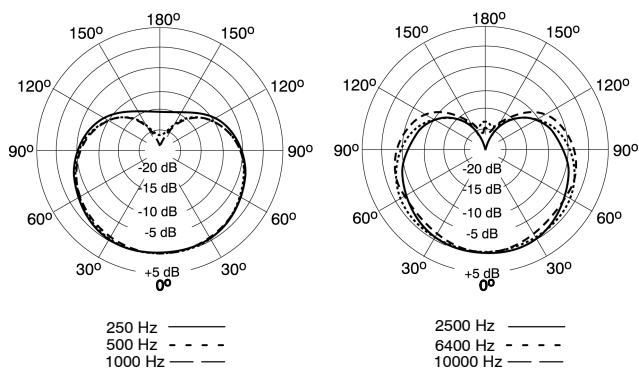

FIGURE 4. TYPICAL CARDIOID POLAR PATTERNS
**Cardioid.** When this pattern is selected, the microphone picks up sounds directly in front of the microphone and is least sensitive to those in back. This is the most commonly used pattern in studio recording and live-sound applications. See Figure 4.
**Omnidirectional.** Picks up sounds from all directions. This pattern is best for picking up room ambience and for miking several sources, such as an ensemble or multiple singers, simultaneously. The omnidirectional polar pattern exhibits no proximity effect. See Figure 4.
Directional Polar Pattern	Cardioid/Omnidirectional (see Figures 4 and 6)